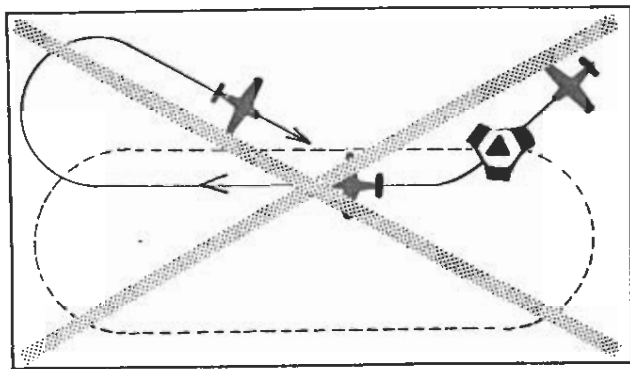

Figure 7-8
2. *The Teardrop Entry.* If you approach the fix from the opposite side and on the non-holding side, an immediate turn to the outbound course would put you too close to the holding course, so that on turning inbound, you would fly through it and have to re-intercept from the non-holding side (figure 7-8). To avoid this problem, make the initial turn to a heading  $30^\circ$  towards the holding side.